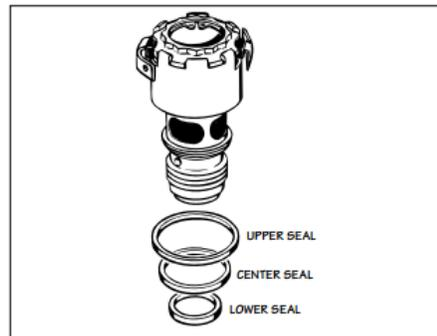

FIG. 1
2. Remove and discard the three rubber seal rings (see Fig. 1). If the lower ring stays in the bottom of the housing solenoid bore, remove with a seal pick.